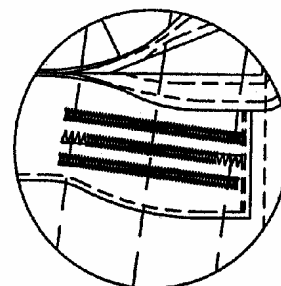

Fig. 3
To reinforce, place a double pass, zig-zag stitch passing through the entire width of the Type-8 diagonal both above and below the old stitch pattern as shown in Figure 3. Use a Type 304, single throw machine with Nylon E (69) - Thread. The zig-zag should be set for a 3/16" width pattern with 12-14 stitches per inch. The stitches should be confined within the Type-3 tape. Sew completely through the backpad.